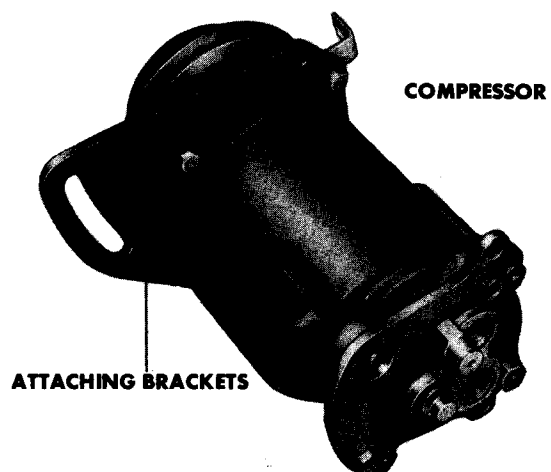

Figure 61—Compressor Removed from Vehicle
15. Remove compressor and attaching brackets by sliding compressor rearward, tipping up and lowering compressor and bracket assembly out from underneath vehicle. Be sure compressor is removed with attaching brackets as shown in figure 61.